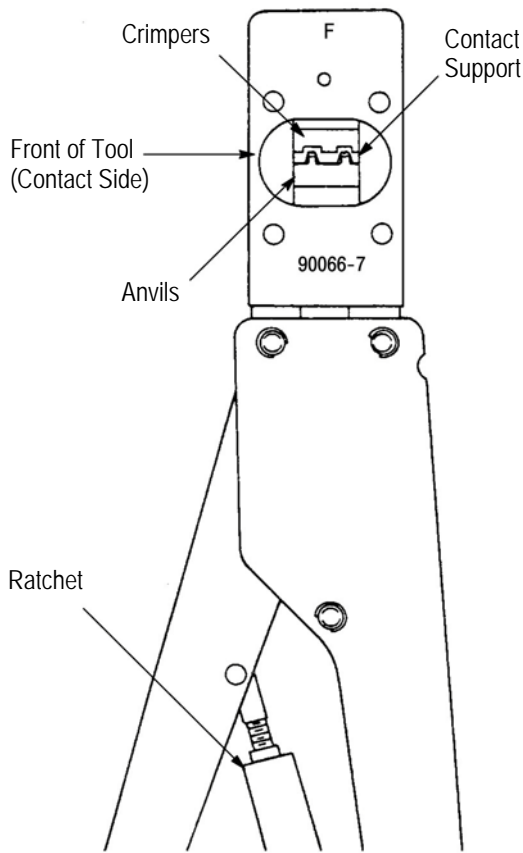

Figure 1
Hand Crimping Tool 90066-7 and Head Assembly 90066-9 (shown in Figure 1) are designed to crimp Type III+ and Type VI, and commercial MATE-N-LOK* contacts listed in Figure 2. Read these instructions thoroughly before crimping any contacts.
2. DESCRIPTION (Figures 1 and 2)
1. Determine the maximum wire size, and select the applicable contact for the tool (see Figure 1).